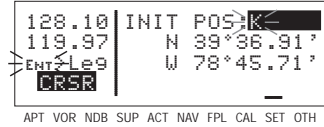

Figure 4-44
- Turn off the cursor. To try it out, proceed to the SET 1 page (initial position). Turn the cursor (CRSR) on (it will come on over the waypoint field). Try turning the right inner knob clockwise (figure 4-44). There's the character you just selected on the SET 5 page!